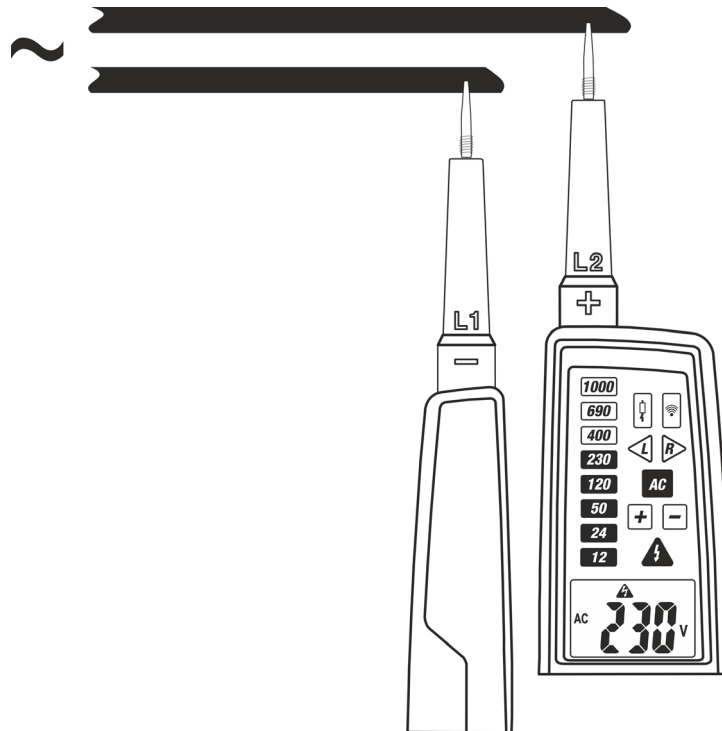

Fig. 5: AC Voltage measurement
2. Connect the **L1** and **L2** probes to the object under test (see Fig. 5). The measurement is performed **only with contact of probes directly on metal parts of conductors**